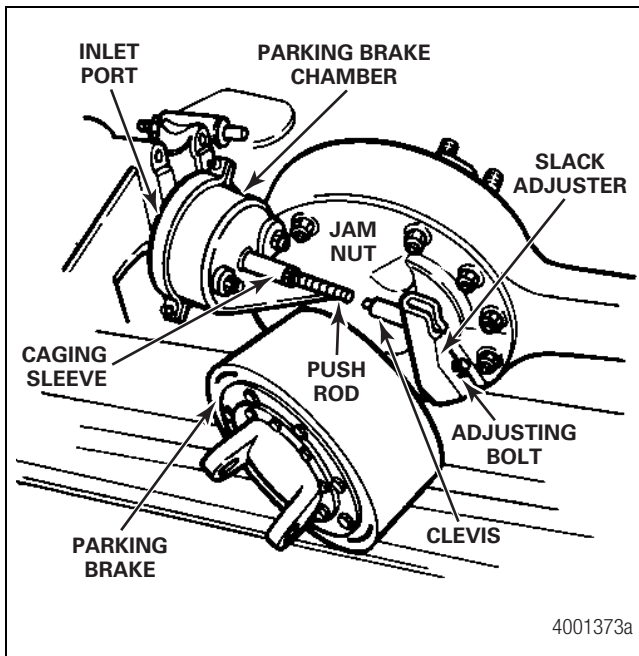

Figure 2.16
- The brake shoes are 4.5-inches (114 mm) wide. Figure 2.16.